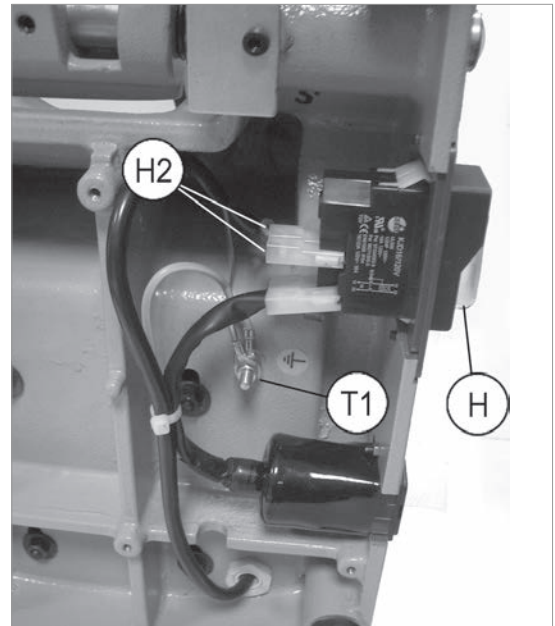

Fig. 59
- 2) Disconnect the 2 connectors (H2). Loosen the nut (T1) and disconnect the earthing wire (Fig. 59).